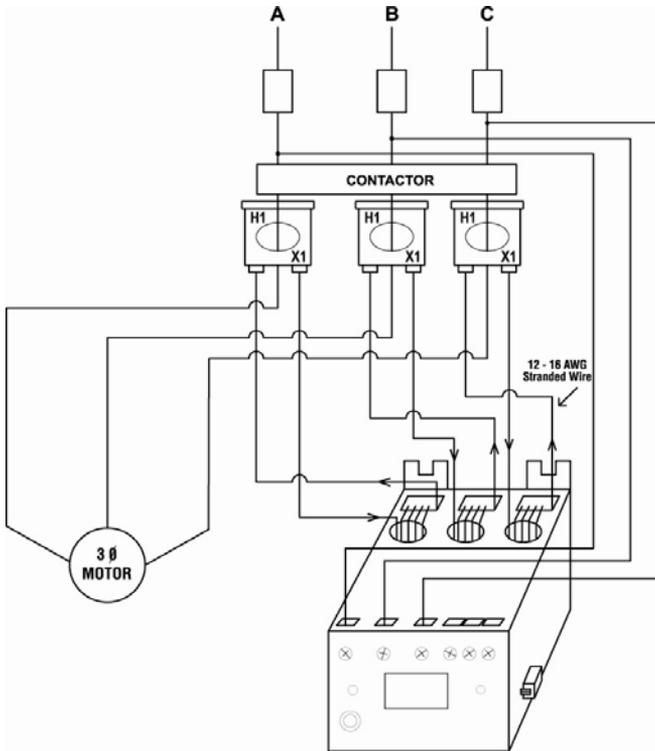

Figure 3: Typical Wiring Using External CTs¹
- c) For amperages greater than 90 amps, external CTs (current transformers) are required. SymCom recommends using CTs with terminal connections for easier installation. All CT secondaries must make five passes through the round holes on the MotorSaver[®]Plus. See Figure 3 for a typical wiring diagram using external CTs.